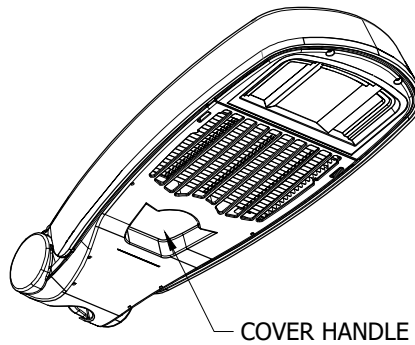

FIGURE 8
2. ONCE DESIRED POSITION IS ACHIEVED, OPEN COVER BY HOLDING FIXTURE AND PULLING THE HANDLE AND ALLOW THE COVER TO SWING OPEN. SEE **FIGURE 8 AND 9**.